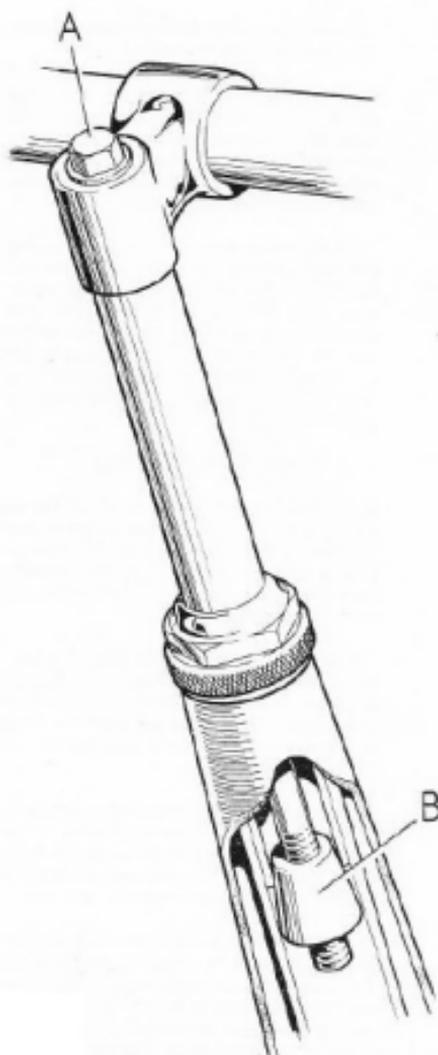

FIG. D11. *Handlebar adjustment.*
The handlebar stem telescopes into the steering head tube. It can be raised or lowered after slackening the expander bolt (A) Fig. D11, when it may also be necessary to tap the bolt head to release the expander cone (B). When tightening, pull the bolt head upwards and at the same time turning to make sure that the location tag on the expander cone is lined up with the slot in the handlebar stem.